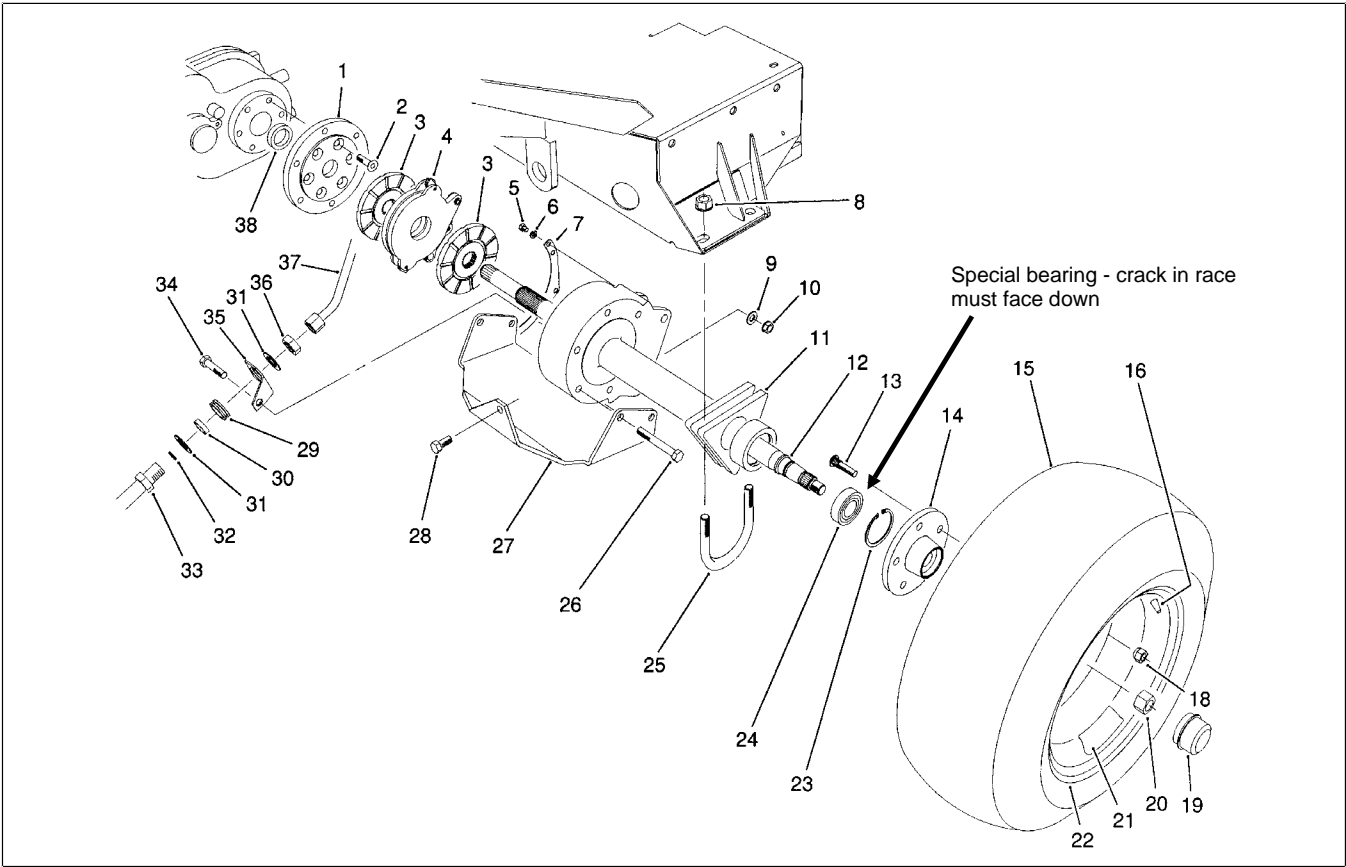

Figure 12
3. Remove front wheels. Remove nuts (Fig. 12, Item 20). Use a puller to pull wheel hubs (Item 14) off of shaft.
8. Support axle assembly, then remove U-bolts (Fig. 12, Item 25) securing axle to frame.
1. Remove skid plate (Fig. 12, Item 27).
IMPORTANT: Outboard axle support bearings (Fig. 12, Item 24) are a special design with a "cracked race". When bearing is installed, it is important that this crack points down. Improper installation will result in rapid bearing wear. Apply Loctite 680 or equivalent to outer race of bearing before installing in axle housing.